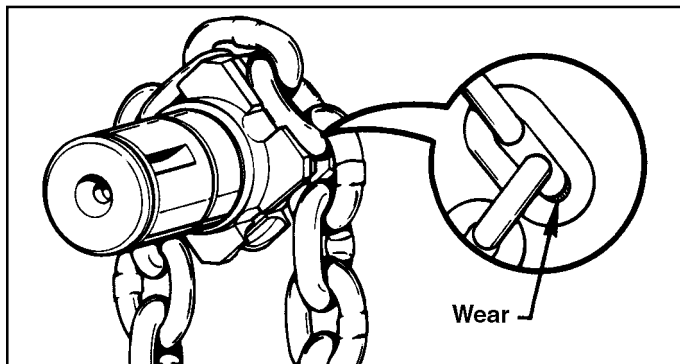
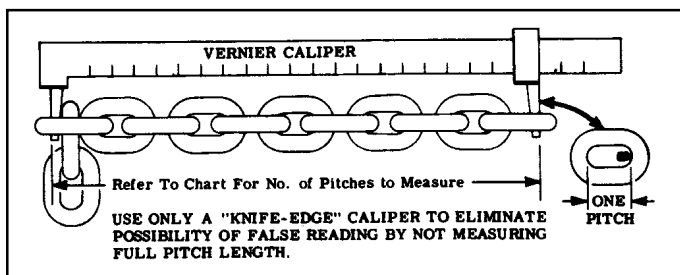

Figure 5-1. Check Chain Wear at Bearing Surfaces Between Links
Figure 5-2. Check Coil Chain Using Vernier Caliper
- (1) Operate hoist under load and observe operation of chain over sprocket in both directions of chain travel. Chain should feed smoothly into and away from the sprocket. If chain binds, jumps or is noisy, first see that it is clean and properly lubricated. If trouble persists, inspect chain as outlined below.
- (2) Clean chain for inspection. Examine visually for gouges, nicks, weld splatter, corrosion or distorted links. Slacken chain and check bearing surfaces between links for wear, Figure 5-1. Greatest wear will often occur at sprocket at high or low point of lift, particularly when hoist is subjected to repetitive lifting cycles. Case hardness of chain is about .015" deep. Chain must be replaced before the case is worn thru. Also check chain for elongation using a vernier caliper (Figure 5-2). Select an unworn, un-stretched section
of chain (usually at slack or tail end) and measure and record the length over the number of chain links (pitches) indicated in Figure 5-2. Measure and record the same length of a worn section in the load side of the chain. Obtain the amount of wear by subtracting the measurement of the unworn section from the measurement of the worn section. If the result (amount of wear) is greater than the amount specified in the "ALLOWABLE CHAIN WEAR" table, the chain has elongated beyond the maximum allowable length and must be replaced. Chain with excessively pitted, corroded, nicked, gouged, twisted or worn links should be replaced using only factory approved chain. **Never weld or attempt to repair coil chain.**